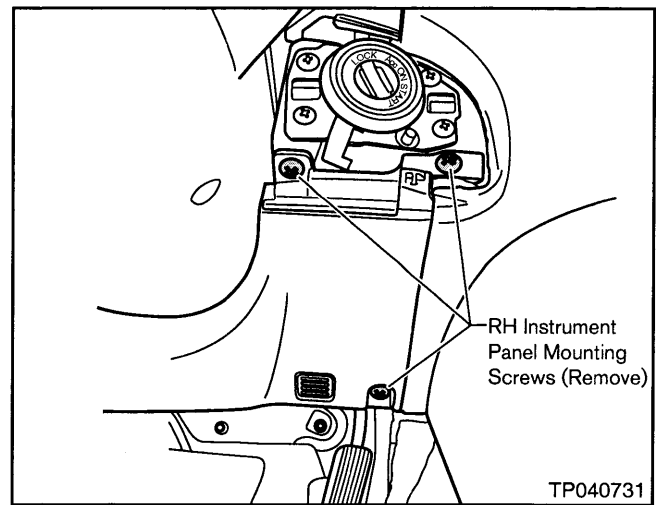

Figure 10
- c. Remove the RH Instrument Panel Mounting Screws (see Figure 10).